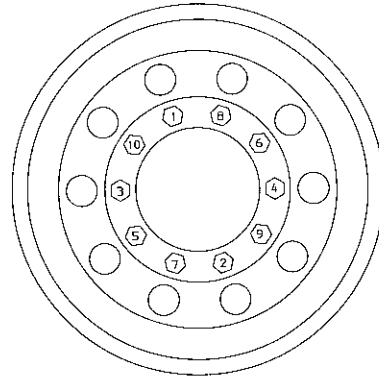

Figure 8-2. Lug Nut Tightening Pattern
12. Install spare and replace lug nuts. Tighten progressively in the sequence shown in figure 8-2 starting with # 1 and proceeding to # 10. Final torque will be 450 to 500 foot-pounds.
3. Remove outer lug nuts from the (5) studs which have lock rings and slide hub cover over remaining lug nuts.
4. Remove the (5) remaining lug nuts and wheel.
6. Install replacement wheel and inner lug nuts. Tighten progressively in the sequence shown in figure 8-2 starting with # 1 and proceeding to # 10. Final torque should be between 450 and 500 foot pounds.
8. Install hub cover over the (5) lug nuts holding wheel to hub. Place lock rings and lug nuts on remaining inner lug nuts 10, 5, 2, 4 and 8.